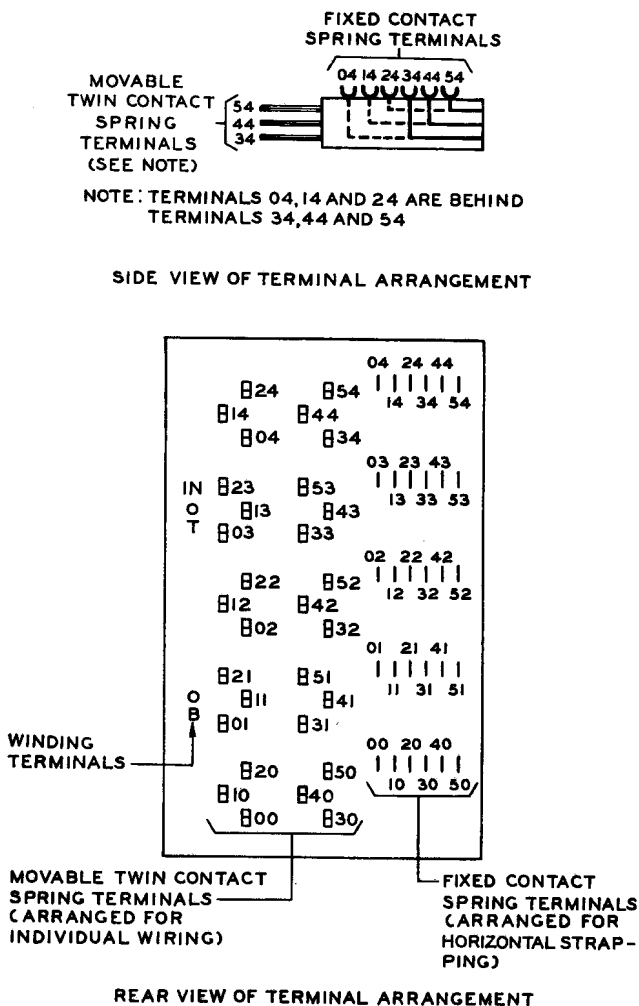

Fig. 60 – Winding and Spring Terminal Arrangement as Viewed From the Rear (terminal side) — 286-Type Relay
(1) The terminals of the movable contact springs are designed for individual wiring. As shown in Fig. 60, they are arranged in two vertical rows of fifteen terminals each. Each vertical row is divided into five groups of three terminals each, alternate terminals being offset to facilitate wiring.
(2) The terminals of the fixed contact springs are designed for horizontal strapping and are arranged in five horizontal rows of six terminals each. The rear ends of all fixed contact springs are offset so that their terminals are located to the right of the terminals of the movable contact springs. The six fixed spring terminals in each horizontal row are associated with the six movable spring terminals in the adjacent two groups to the left.
(3) Referring to Fig. 60, all terminals are designated by 2-digit numbers. The five groups of movable spring terminals in each vertical row are numbered from 0 to 4 starting at the bottom. Similarly, the five horizontal rows of fixed spring terminals are numbered from 0 to 4 starting at the bottom. These numbers appear as the second digit in the designation of the individual terminals.
(4) In the left vertical row of movable spring terminals, the three terminals in each of the five groups are numbered 0, 1, and 2 starting at the lowest terminal in the group. Associated with these terminals are the first three fixed spring terminals in the adjacent horizontal row which are also numbered 0, 1, and 2 starting at the left end of the row. These numbers appear as the first digit in the designations of the individual terminals.
(5) In the right vertical row of movable spring terminals, the three terminals in each of the five groups are numbered 3, 4, and 5 starting at the lowest terminal in the group. Associated with these terminals are the second three fixed spring terminals in
**2.73 Winding Terminals:** One pair of winding terminals is provided for the 286-type relay and two pairs for the 287- and 288-type relays as shown in Fig. 60, 61, and 62, respectively. These terminals extend from the rear of the relay where external wiring is connected. Test lugs which are an integral part of the terminals are accessible from the front of the relay. As viewed from the front, the test lugs and winding terminals are at the right side of the relay. The upper terminal of each pair is designated T and the lower terminal of the pair is designated B. As viewed from the rear, the winding terminals are at the left of the spring terminals and have the same designations as when viewed from the front. In each case, the T terminal is connected to the inner end of the winding as indicated on the figure.